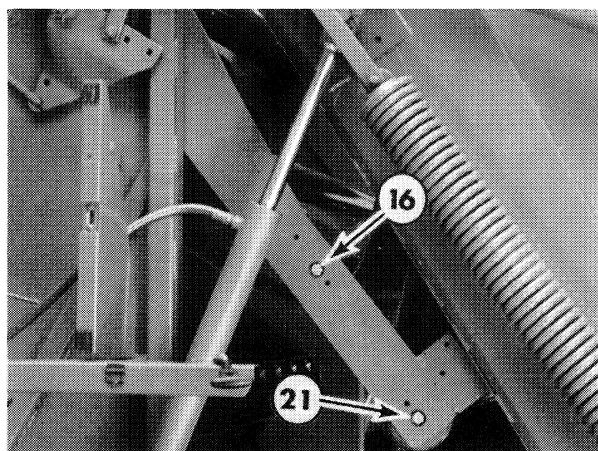

Figure 7-54
5. On endless belt models, open the tailgate until the roll hardware is exposed and lock the tailgate. Remove the cap screws on each side to remove rolls 16 and 21 from the baler. See Figure 7-54.